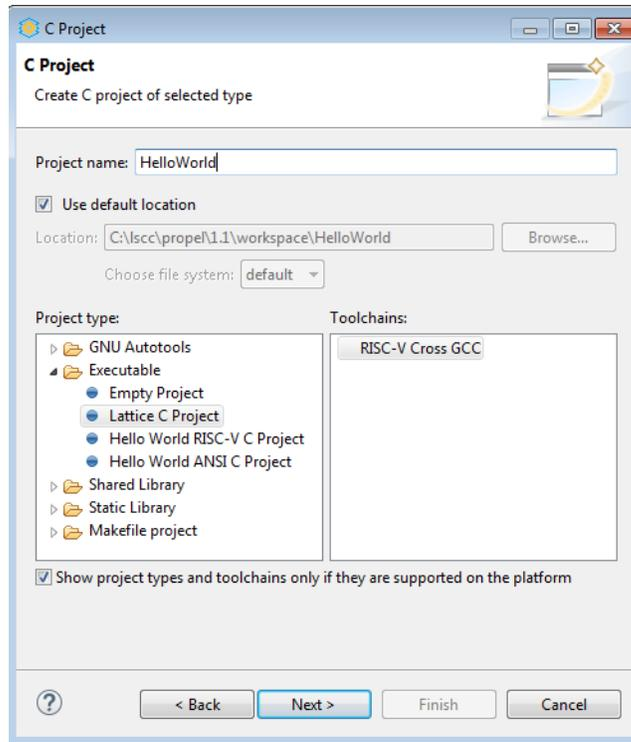

Figure 4.9. Create C Project Page
5. Enter project name "HelloWorld" (Figure 4.9). Click **Next**. Then click **Finish**.